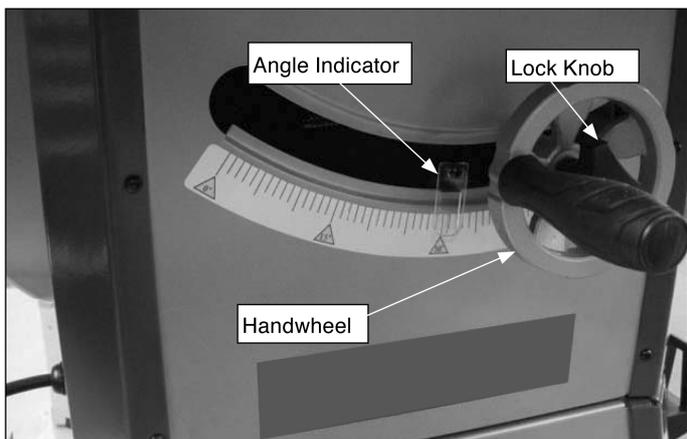
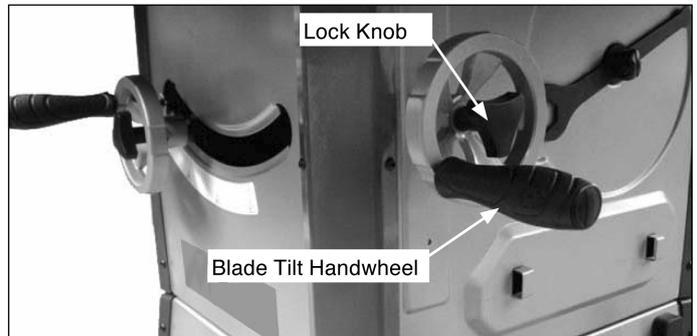

Figure 41 - Blade Height Adjustment
Figure 42 - Blade Tilt Handwheel
Refer to Figure 41.
Refer to Figures 41 and 42.
- The saw blade can be set at any angle between 90° and 45°. Blade tilt is controlled by the handwheel (Fig. 41) on the right side of the saw. The indicator (Fig. 42) on front of saw shows the tilt angle of the blade.
Refer to Figures 41 and 43.